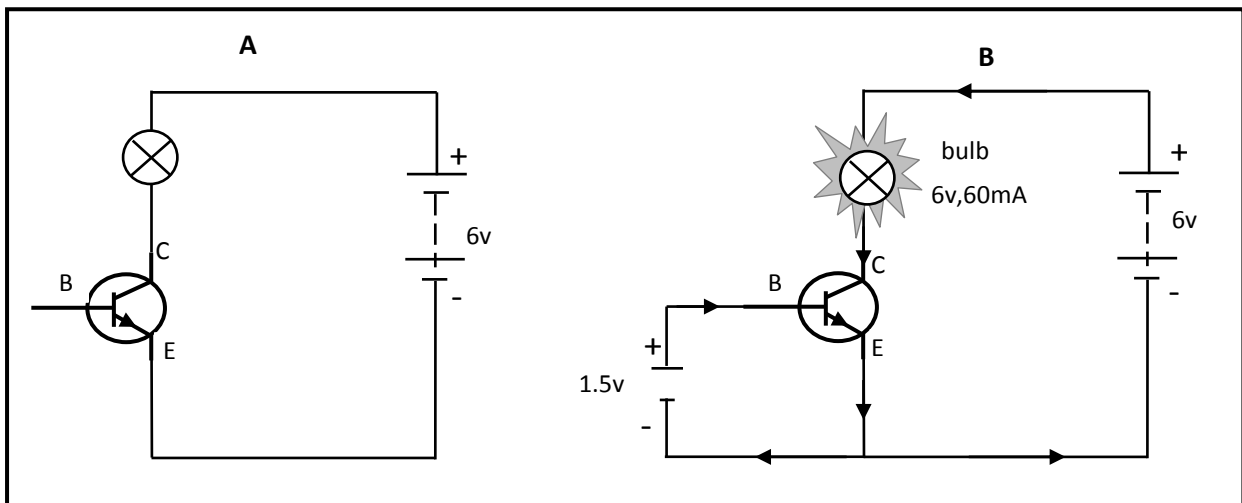

Figure 28. The behavior of a transistor in a circuit
In diagram (A) of figure 28 below, the transistor has a blocking effect. In other words, it is switched off. There is no current flowing through it and the bulb does not light. Diagram (B) shows what happens when a small battery is connected between the base and the emitter. A tiny current flows through the base and this alters the way transistors behave. The blocking effect disappears, the transistor conducts and the bulb lights up. You must remember that the transistor will only switch on like this if the positive (+) and the negative (-) terminals of the power source are connected the right way.